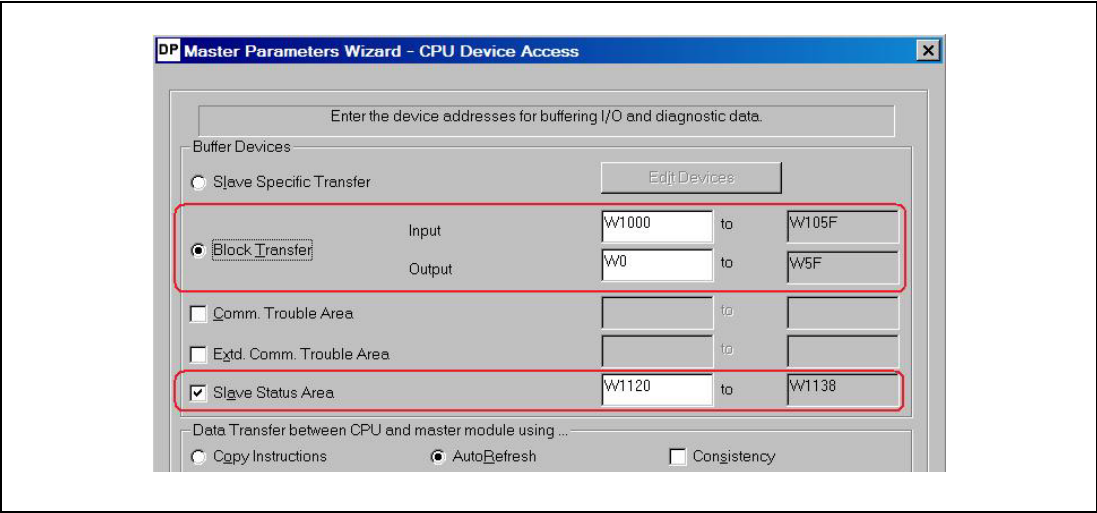

Fig. 7-28: Auto refresh settings
- * The data transfer between the buffer memory of the ME1PB1-L and the CC-Link IE Field devices is set in the PROFIBUS DP auto refresh settings (refer to fig. 7-28).